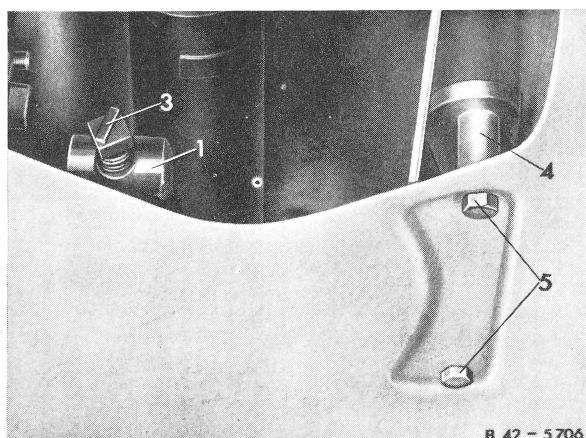

Fig. 4
6 Unscrew hex. screws (5) for attaching guide (4) for intermediate lever (6) (Fig. 4 and 5).
7 Completely unscrew adjusting screw (3) of adjusting bracket (1) (Fig. 4).